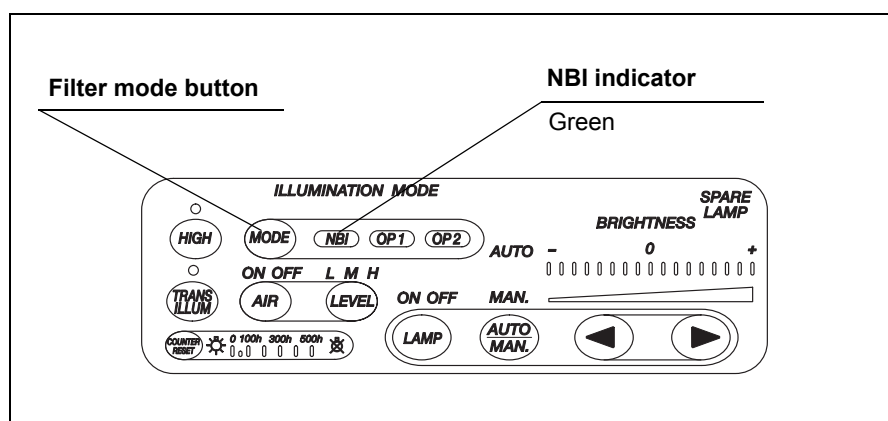

Figure 4.11
1. Confirm that the filter mode button lights and the “NBI” indicator lights in green (see Figure 4.11).
2. In Figure 4.11, normal observation is active.